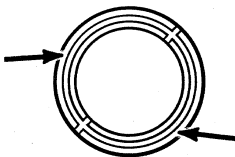

Figure 2. Knockouts
1. Remove desired center knockouts by placing screwdrivers on inner ring groove by the arrow (see figure 2), then carefully apply a solid rap on the handle of the screwdriver with hand or hammer.
2. Remove outer ring, if necessary, by placing screwdriver into groove by the arrow (see figure 2) and punch inward. Smooth the opening's rim with round file or knife.